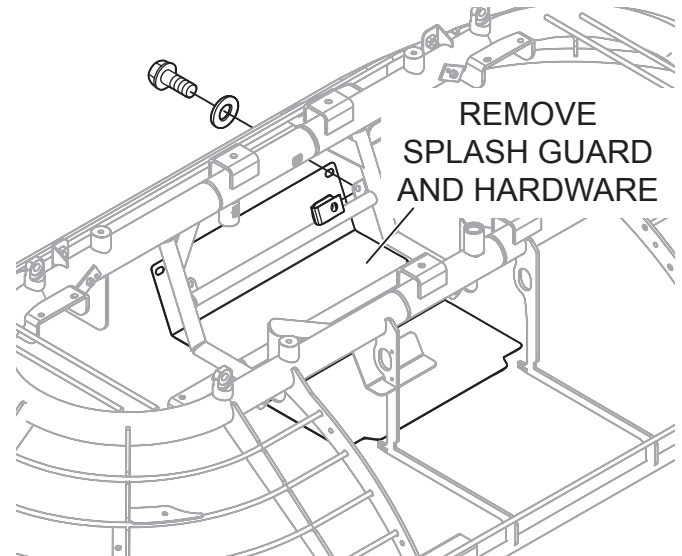

Figure 6. Remove Splash Guard
1. Remove splash pan and hardware from trowel frame. Set aside in a clean, safe place. See Figure 6.